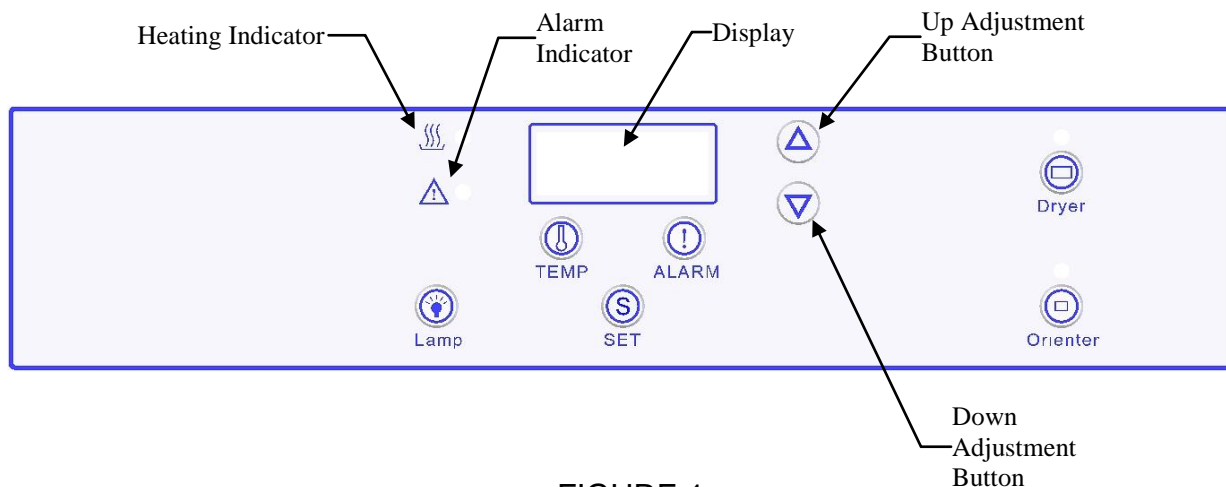

FIGURE 1
4.1 **Controls and Indicator Lamp** (see FIGURE 1)